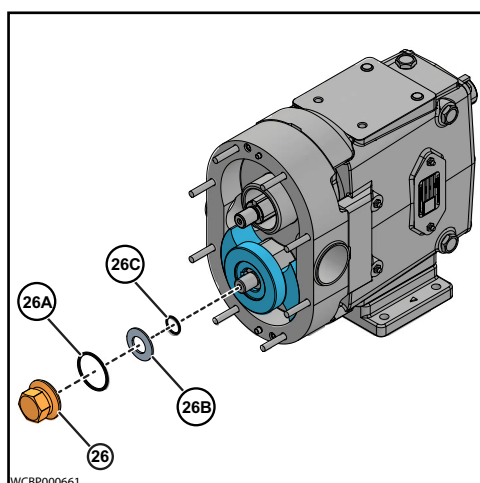

Figure 38 - Remove Rotor Nut
7. Using only your hands, remove the Rotor nuts (26), Belleville-Style Washers (26B), Rotor nut O-rings (26A) and Rotor hub O-rings (26C), as shown in Figure 38.